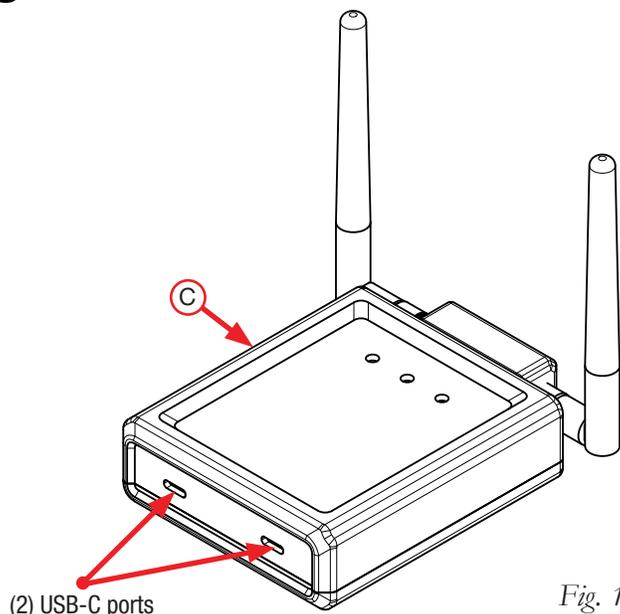

Fig. 14
1. Connect the camera interface (Fig. 14) using the supplied USB-C cable (J), either directly into a USB-C port in the vehicle cab or using the 12v car lighter adapter (I).